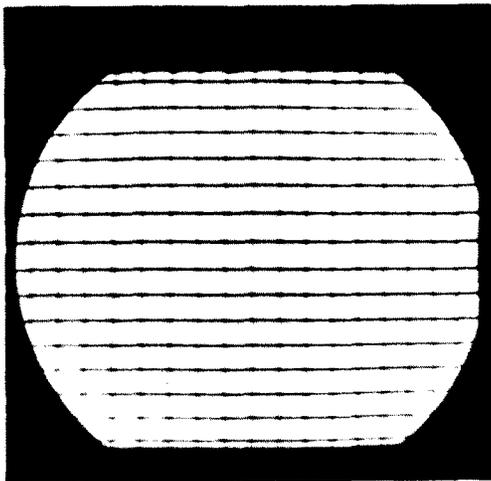

Figure 26. Loss of High-Frequency Response in the Video System as Indicated by the Cross-Hatch Pattern.
1. High Frequency Response. The vertical lines of the crosshatch pattern are produced by sharp 3.4 kc pulses, and to faithfully reproduce these lines, the receiver circuits must be capable of passing at least the tenth harmonic of 3.5 kc, which is 3.15 mc. The pattern in Figure 26 illustrates how a loss of high frequency response would show up. Note that the edges of the vertical lines are blurry whereas they should be distinct.